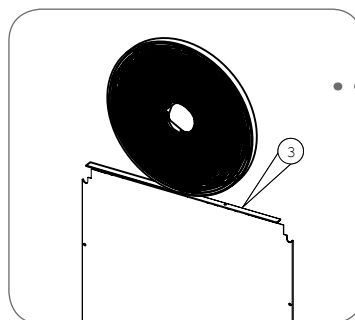

Figure 3.3. Sealing the back panel.
On the back panel, the surface against the roof is sealed (3), Fig. 3.3.